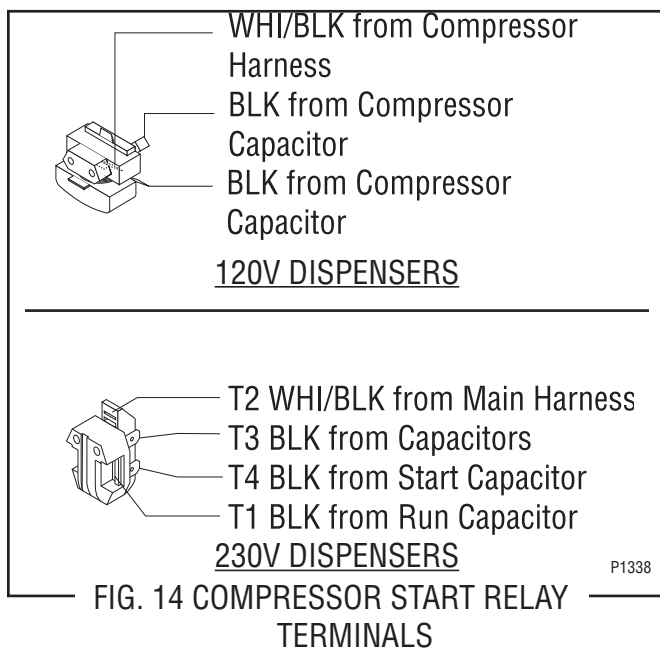

FIG. 14 COMPRESSOR START RELAY
1. Remove the terminal cover retainer (6) and the terminal cover (5)
3. Pull relay (1) off of the compressor pins and discard.
5. Refer to Fig. 14 and reconnect the wires.
6. Reinstall terminal cover (5) and cover retainer (6).